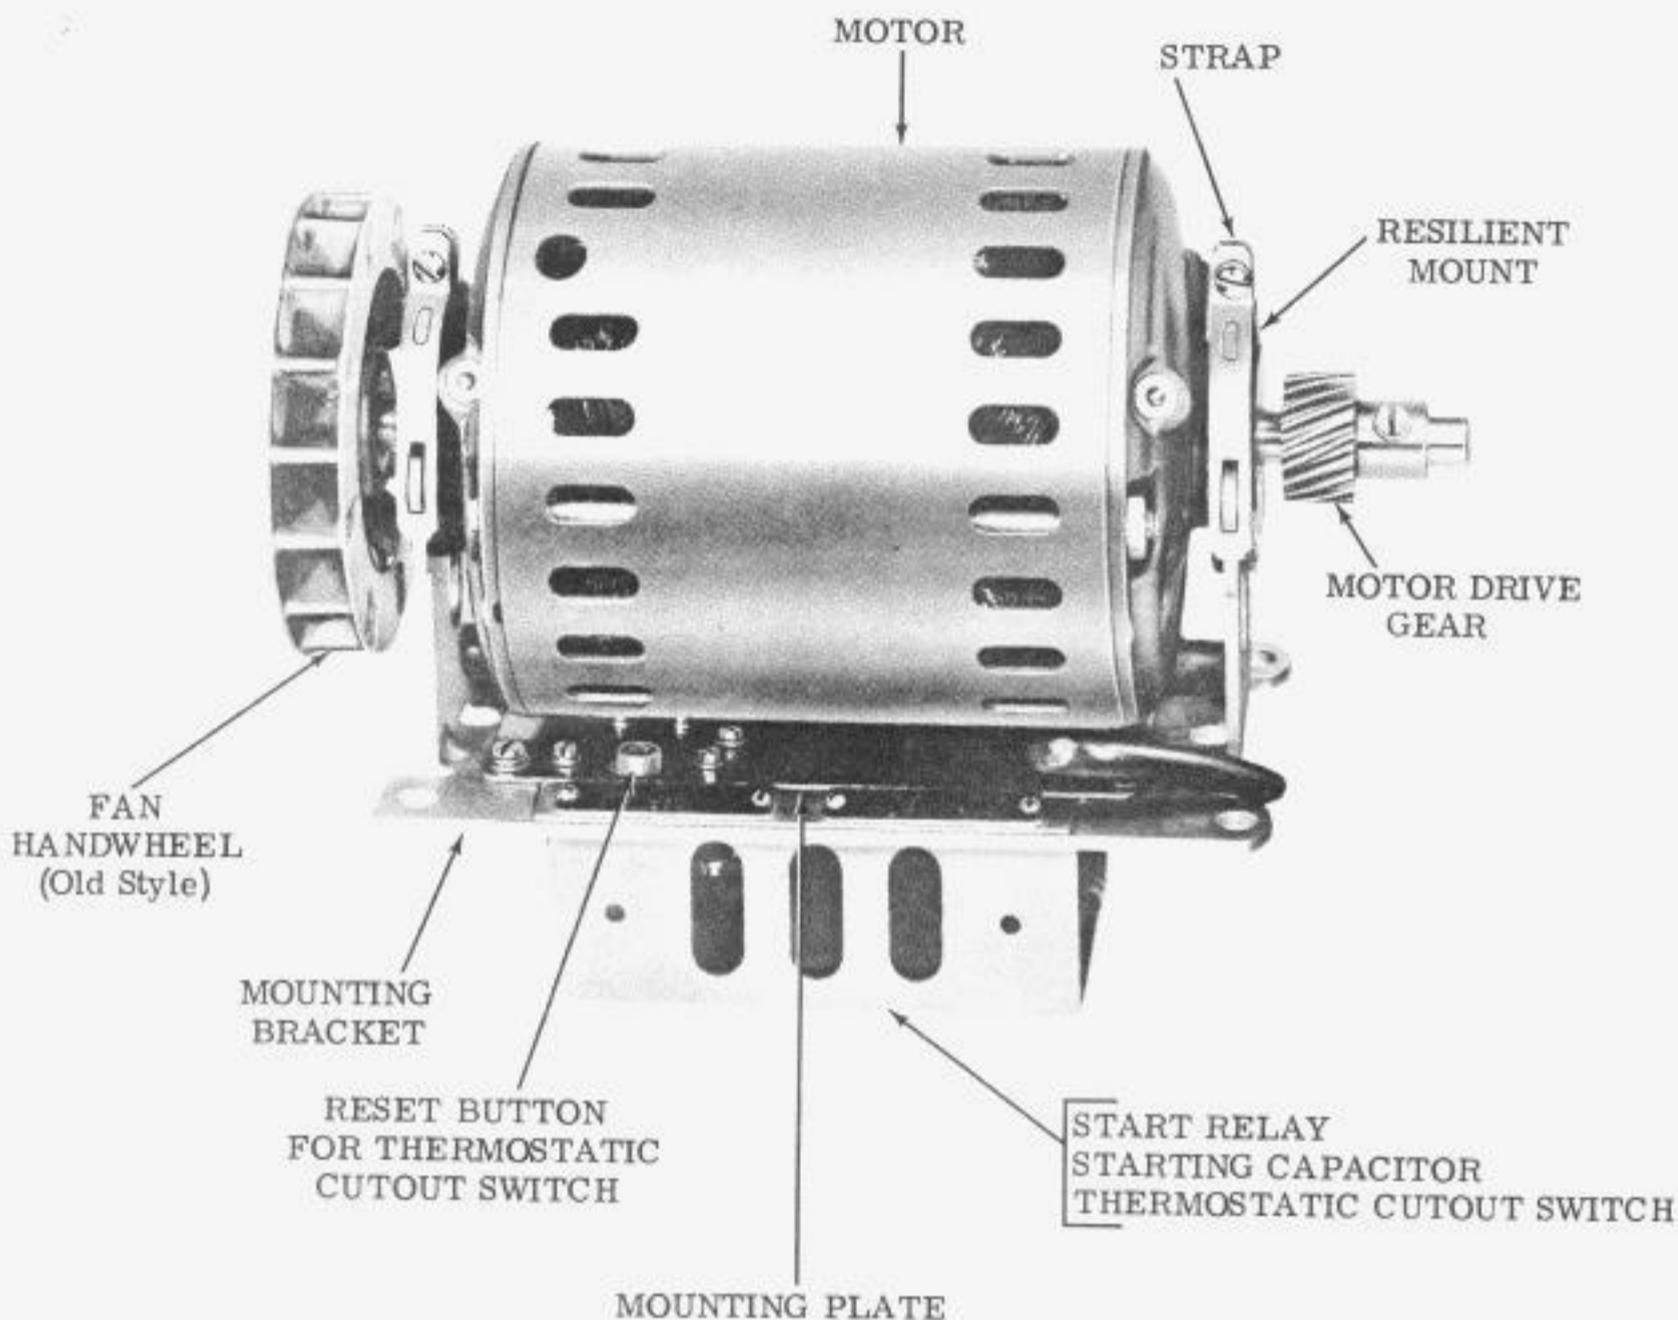
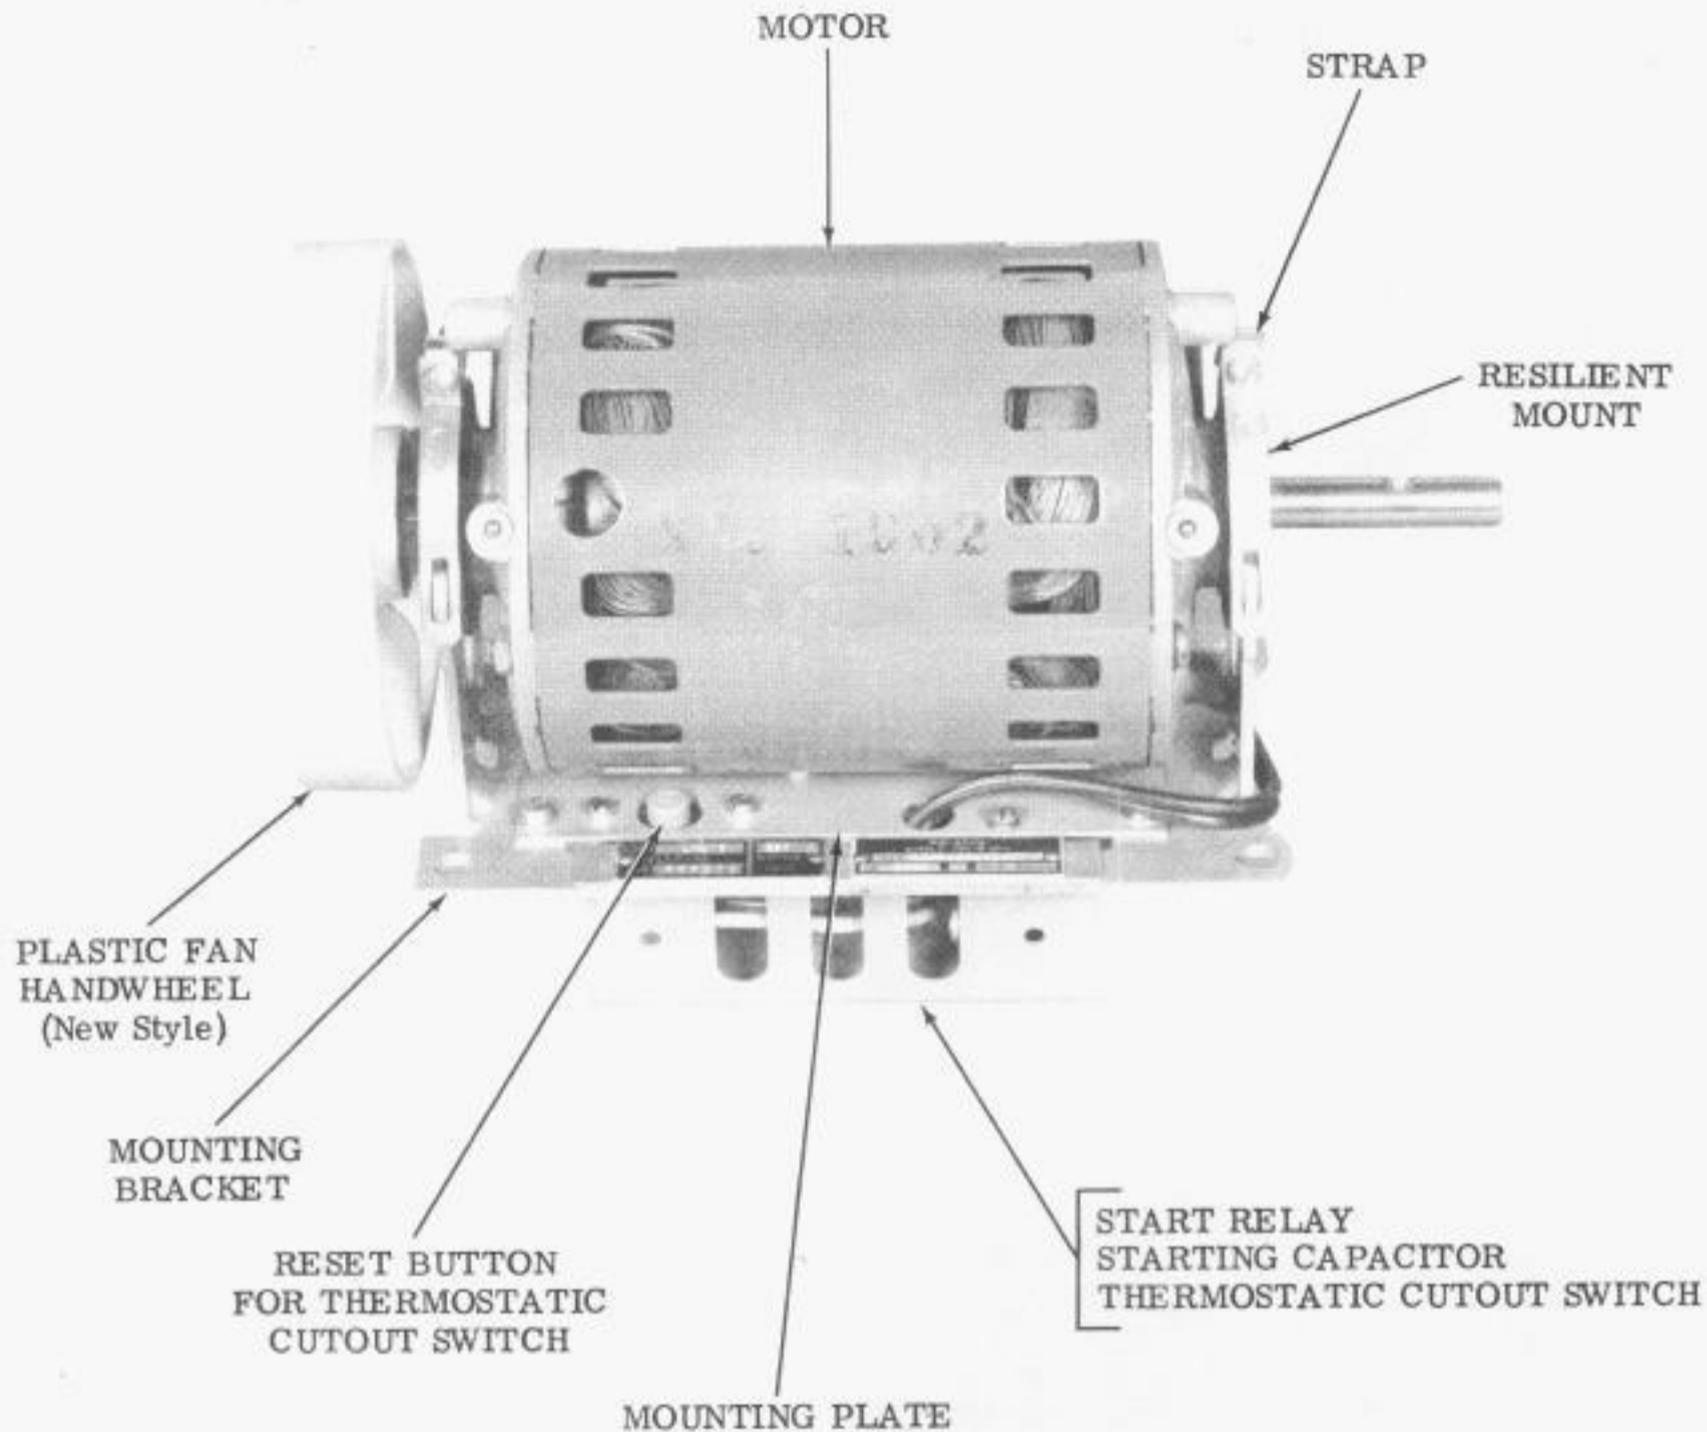

Figure 2 - Typical Standard or Heavy Duty Synchronous Motor Unit
Figure 3 - Typical Standard or Heavy Duty Synchronous Motor Unit
2.04 The standard and heavy duty synchronous motor units (Figure 2) consists of a two-pole wound stator and two end shields that support a ball bearing rotor. A combination handwheel and fan (new-style handwheel and fan is made of plastic — Figure 3) is mounted on the motor shaft, and two fans are mounted at each end of